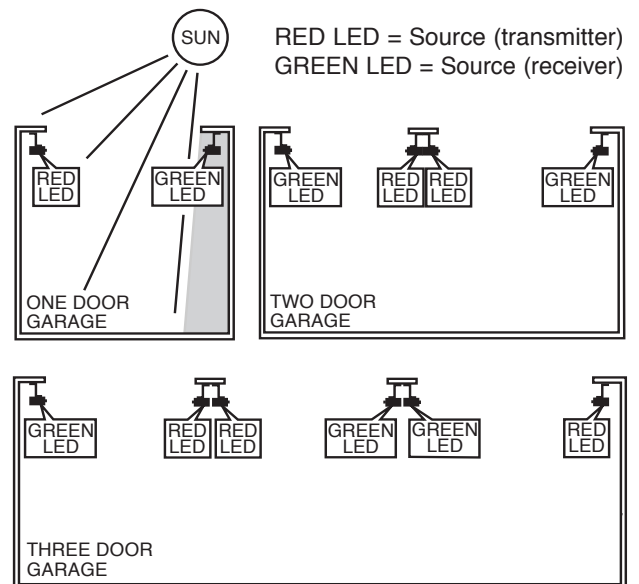

Figure 25 Source/sensor Locations
- For multiple-door garages see (**Figure 25**).